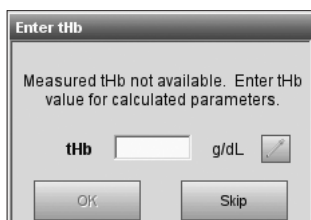

Fig. 3-32 Enter tHb Value
- To enter a tHb value, press the **<Patient Information>** button when displayed during calibration or sample measurement, and go to page 2 to enter the value (Fig. 3-32).